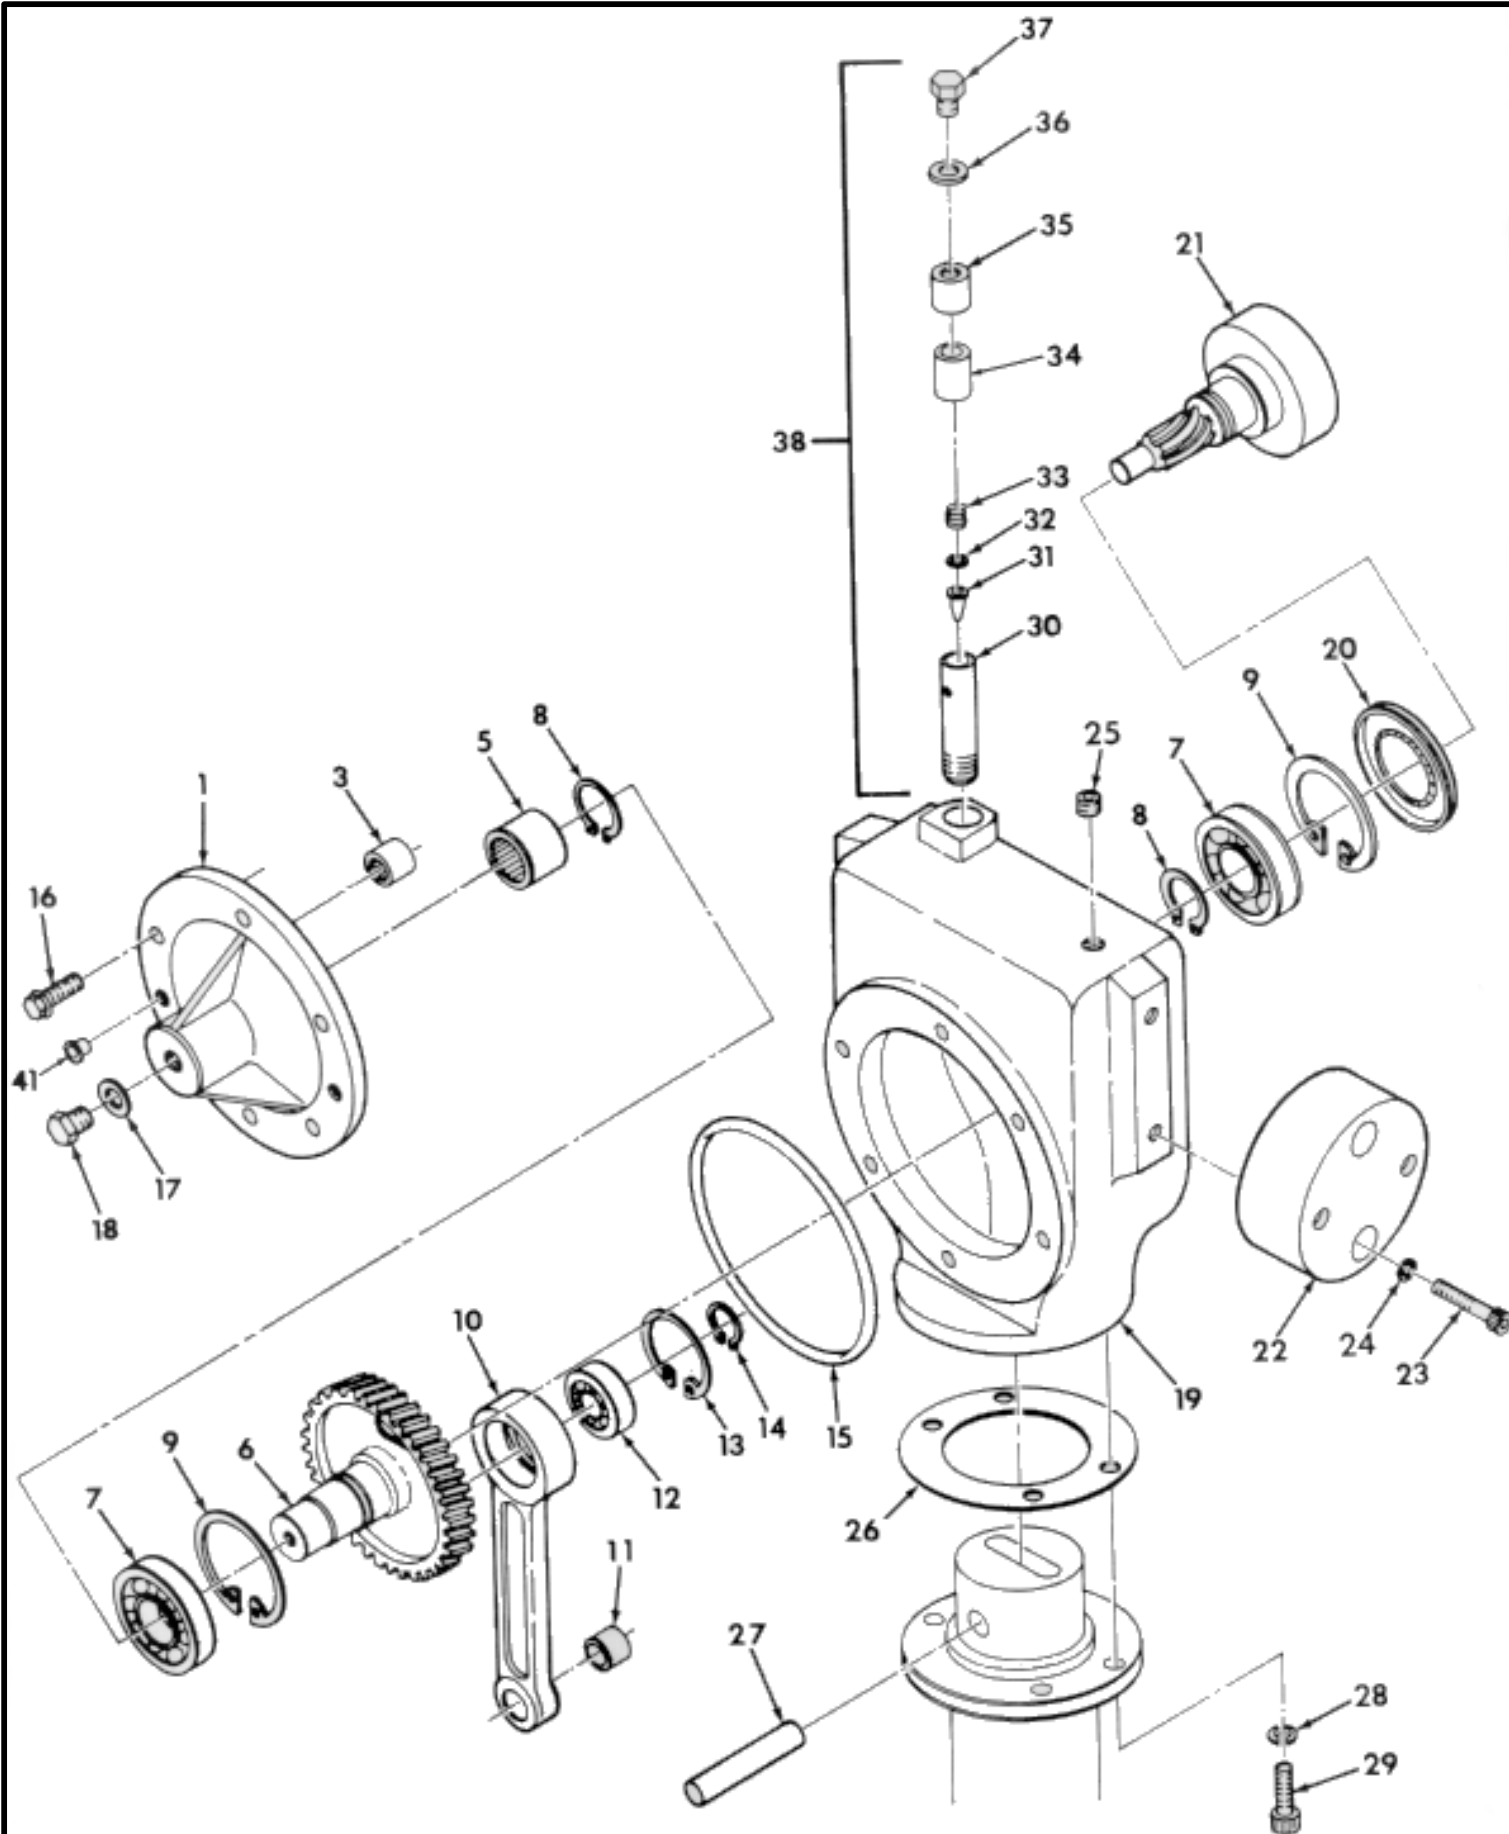

FIGURE 7: 270, 450 & 451 GEARBOX
6. If the Shockmounts (Fig 7, #22) were removed, apply Loctite #242 to the four Socket Head Cap Screws (Fig 7, #23) before assembly. Torque the four Socket Head Cap Screws to 35 ft lbs (47 N•m).
7. Replace Seal Washer (Fig 7, #17) if damaged. **Do not** over tighten Hex Head Cap Screw (Fig 7, #18).
8. Use Loctite #242 on the Breather Tube Assembly (Fig 7, #30). Torque to 50 ft lbs (68 N•m).
9. Before installing the Gearbox to the Lower System, install a new Gasket (Fig 7, #26) on the top of the Lower System.
10. Torque the four Socket Head Cap Screws (Fig 7, #29) holding the Gearbox to the Lower System to 60 ft lbs (81 N•m).